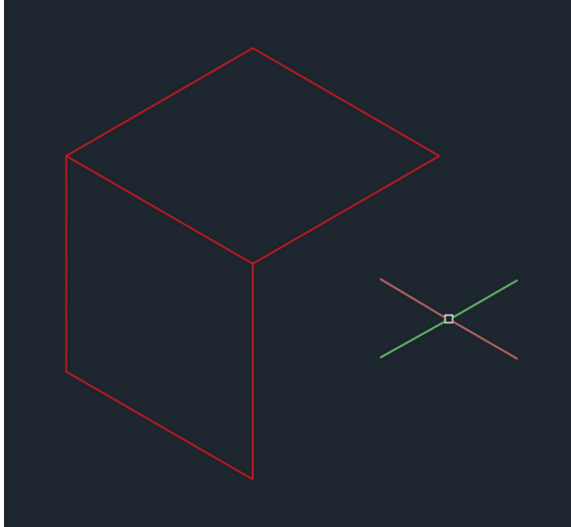

FIGURE A.6 Drawing the top of the cube in Isoplane Top mode
8. Press F5 once to toggle into Isoplane Top mode. Draw another parallelogram representing the top of the cube with 1-unit edges to match Figure A.6. Use endpoint object snap to connect the three new lines to the lines you have already drawn.